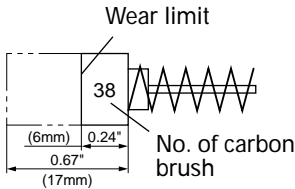

Fig. 18
3. Inspecting the carbon brushes (Fig. 18)
NOTE: Use HITACHI carbon brush No. 38 indicated in Fig. 18.